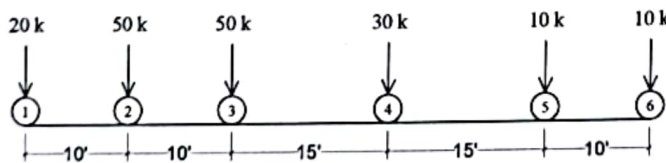

Fig. 2
| 2. | A set of axle load is given in Fig. 2 below. For a simply supported girder of 60 ft. span analyze the effect of the given moving load to determine the position and value of absolute maximum bending moment on it. | (40) | 3 |